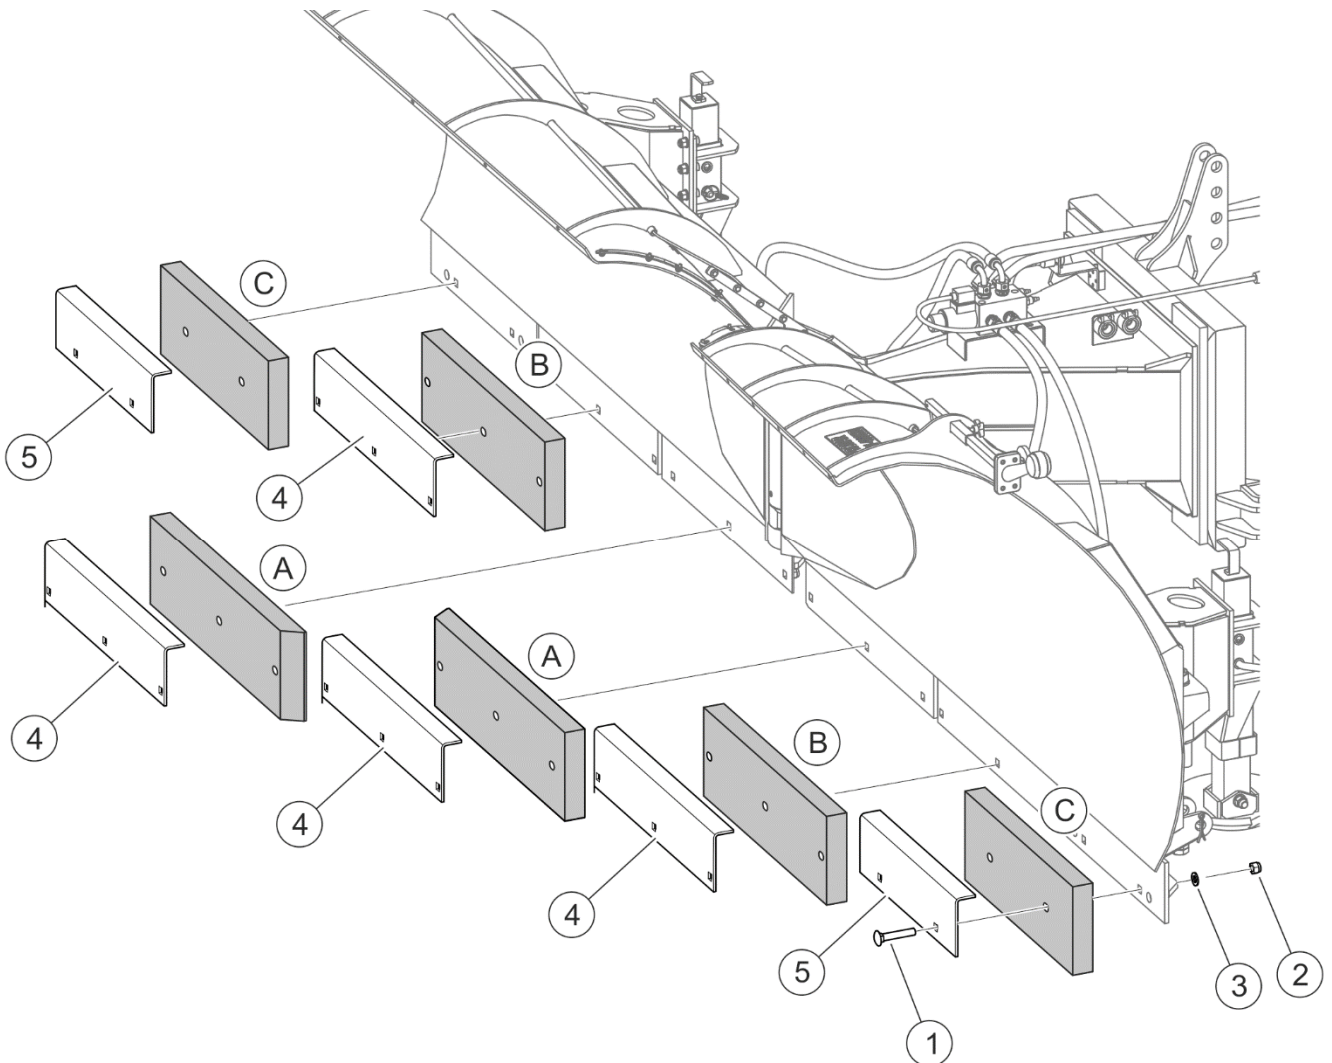
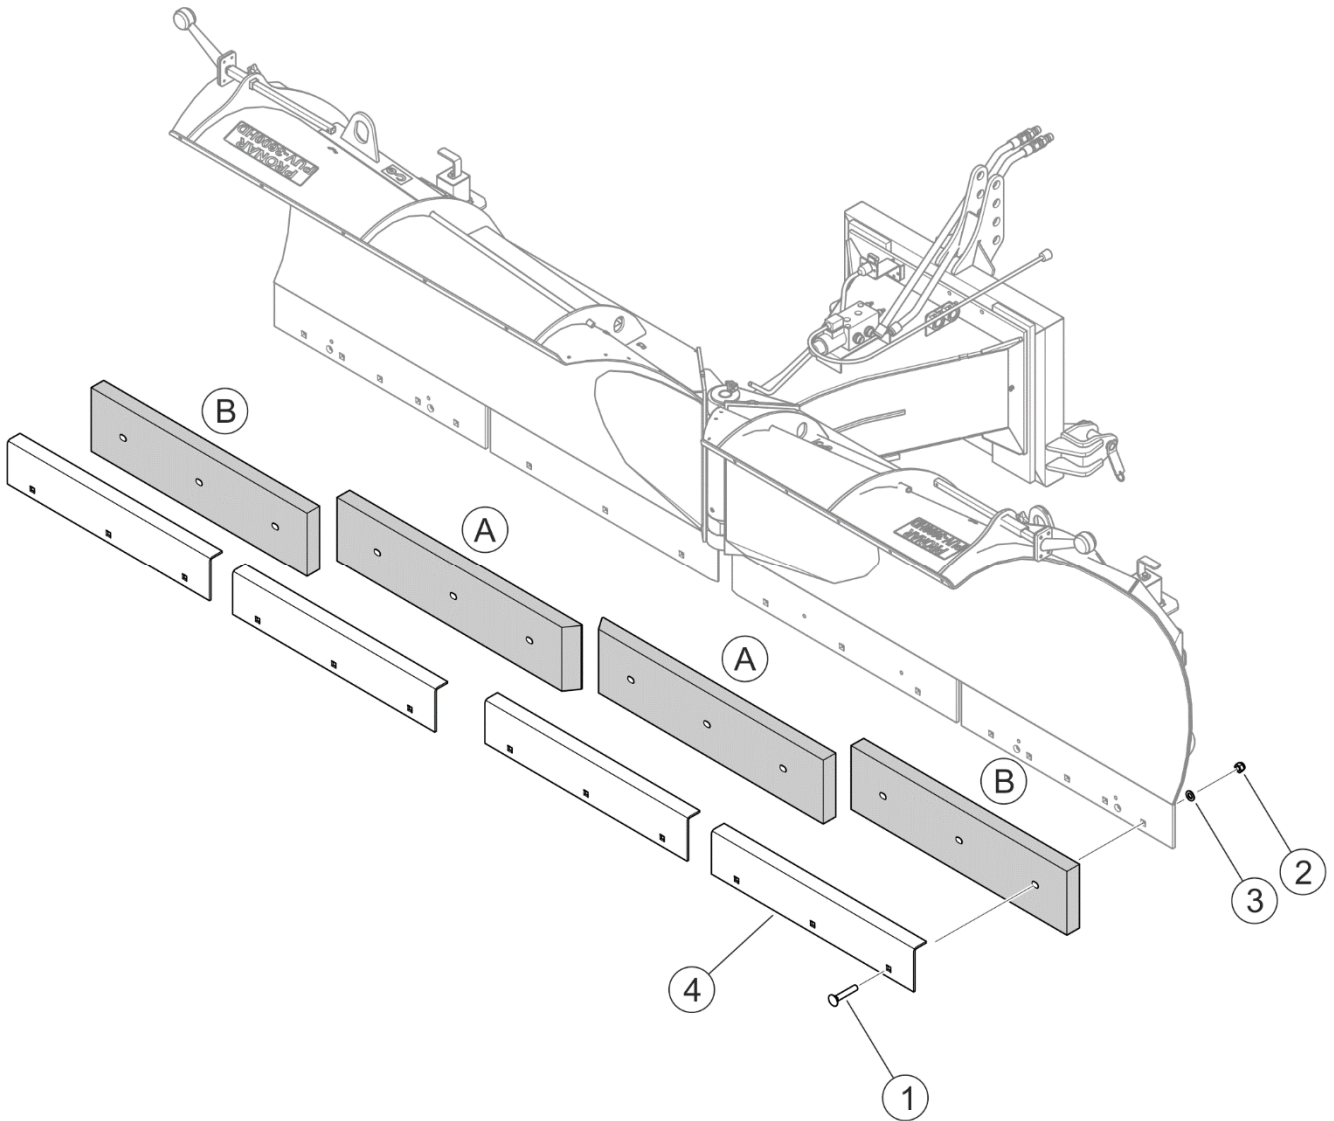

FIGURE 5.5 Replacement of PUV-400HD rubber blades (option)
FIGURE 5.6 Replacement of PUV-3600HD rubber blades (option)
* - used as external blade instead of (B) blade
In the snow ploughs equipped with rubber collecting blades (FIGURE 5.5, FIGURE 5.6), rubber blade segments are fixed with bolts (1) using cover plates (4) and (5). In order to replace blades, undo individual nuts (2), take out bolts (1) and remove cover plates (4) or (5). Install a new blade in reverse order.